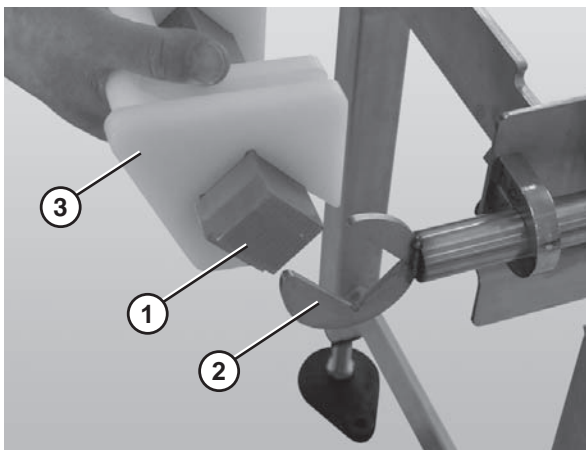

Figure 70
4. After all tracking pucks (Figure 70, item 3) are installed, slide the nose bar drive or transfer post (Figure 70, item 1) into of the nose bar drive weldment or idler hands (Figure 70, item 2).